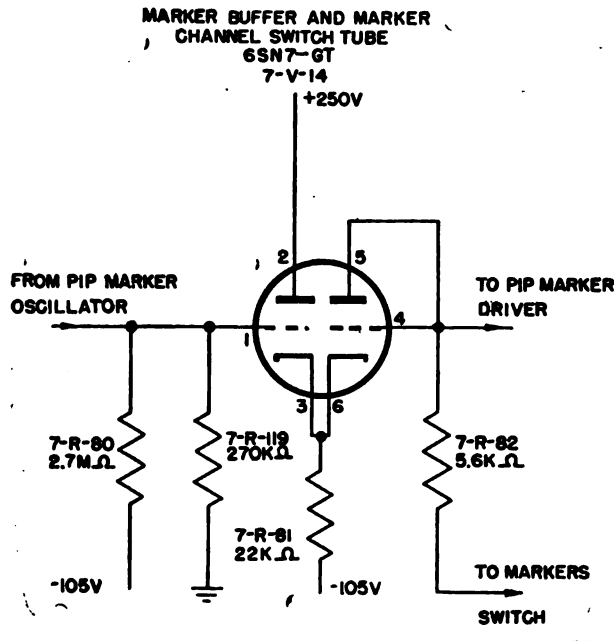

Figure 123. Marker buffer and marker channel switch tube, simplified schematic diagram.
**c. MARKER BUFFER AND MARKER CHANNEL SWITCH TUBE.** The marker buffer half, 7-V-14, of the stage (fig. 123) isolates the oscillator described above from the balance of the circuit and thus acts as a stabilizing influence. The marker channel switch tube, the second section of tube 7-V-14, provides an electronic means of switching on and off the pip markers that appear on the PPI-scope screen. The output waveform of this stage is distorted because of the slightly positive potential on the cathode. This series of negative pulsations with an amplitude of 12 to 15 volts is directly coupled to the grid of the pip marker driver.
follower, is referred to as a marker-buffer; it isolates the pip marker oscillator from the succeeding stages. A divider network, 7-R-80 and 7-R-119, places -9.5 volts on the grid. The plate of the tube is connected directly to +250 volts and the cathode to -105 volts through 22,000-ohm resistor 7-R-81. The resulting 5-milliampere current flow causes a 106-volt drop across the cathode resistor. The cathode potential, therefore, is approximately 1-volt positive, and the effective bias on the grid is -10.5 volts. The tube action tends to improve the stability of, and isolate the following stages from, the pip marker oscillator. A stable sine wave with an amplitude of approximately 40 volts is developed across common cathode resistor 7-R-81. This voltage is effectively applied to the grid-cathode circuit of the second section of the tube (fig. 123).